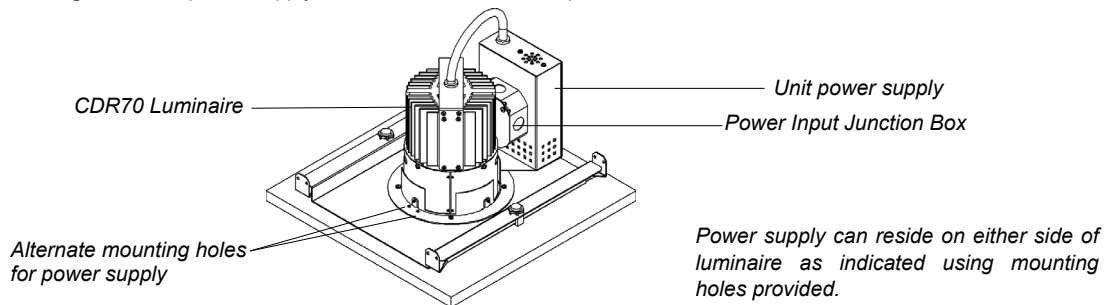

Figure 8: CDR70 Main Dim New Construction Model
Step 1. For mains dim models only, the unit's power supply can be installed in either side of the luminaire mounting area as shown in **Figure 8**. The power supply must be installed in either position for fixture installation.